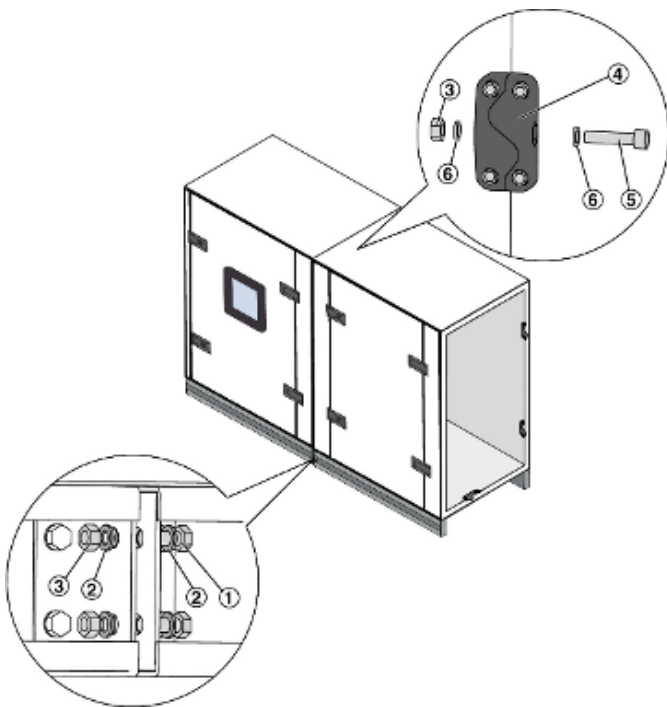

Fig. 16: Joining the base frames with screws/bolts
- ▶ If there are several AHU casing units, connect them together using casing unit connectors, (Fig. 16 /4).